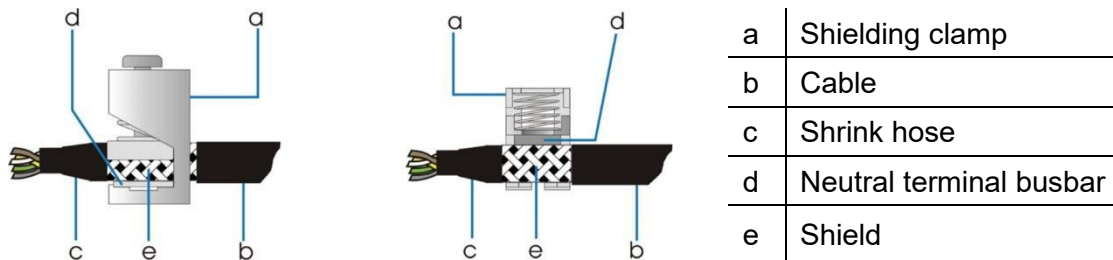

Fig 25 Left: Shield over cable, hand-fasten shield securing clip Right: Shield over cable, spring-type terminal
4. Attach the cable using the shield securing clip (left in Fig. 25 below), or using the spring-type terminal (right in Fig. 25 below).
Fasten the shield securing clip by hand, do not use a screwdriver or forceps (left in Fig. 25 below).